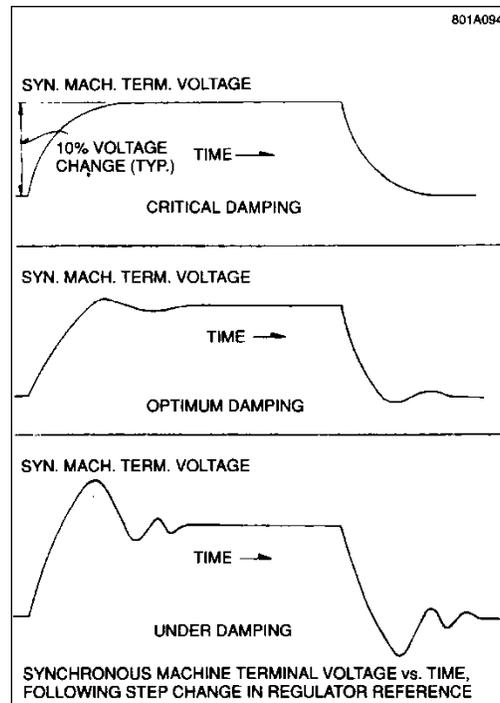

Figure 7-2. Generator Output Responses
The offline instantaneous limiter must be set high enough so as not to impact the bump test. Positive voltage bumps with a rotating exciter can cause the limiter to effectively reduce the generator ceiling voltage and make the response look like that of an over- or critically-damped regulator. See Figure 7-2.
3. Using the Time Response window of BESTCOMSP_{ro} configure a test signal type of “Step” with a magnitude of -0.010, and step duration of 10 seconds. Configure the test signal injection location to “Auto Error”. Initiate a voltage bump test by pressing “Start”. Gradually increase voltage bumps to 5% changes first in the lower direction (negative magnitude) and then in the raise direction (positive magnitude) for various damping adjustments. By observing the response action on the data record, optimum damping adjustments can be made. See Figure 7-2 for suggested optimum response conditions. Exercise care so that the unit is not under damped when offline. This can cause oscillations when the unit is operating online.